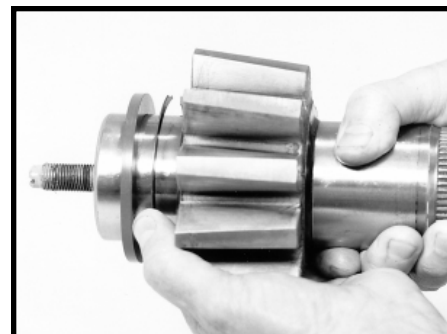

Figure 144 - ALTERNATE
38. Assemble retaining ring (51) onto the side cover end of sector shaft (48). Assemble the two- piece seal (52) onto the end of the sector shaft about 1 inch (25.4 mm). The words “oil side” on the seal must face toward the sector shaft. SEE FIGURE 144.